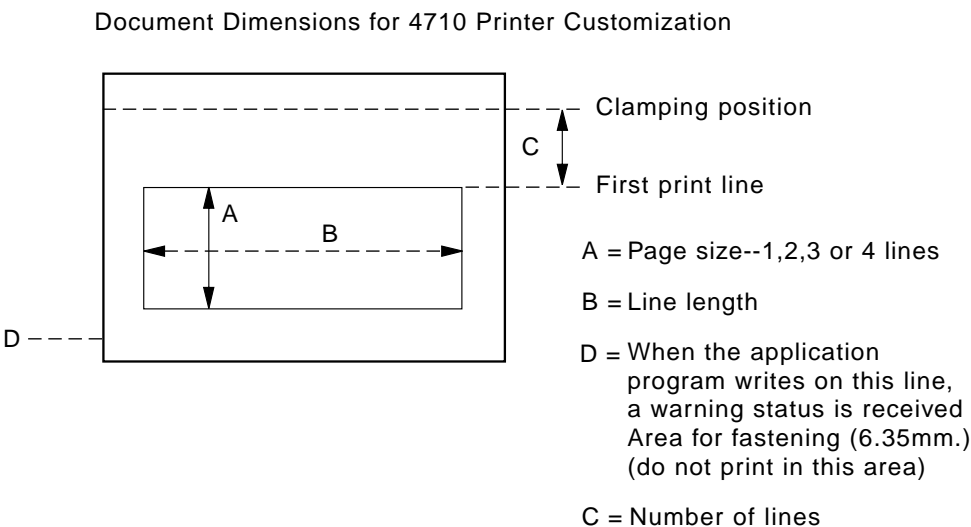

Figure 9. Document dimensions for IBM 4710 printer customization
VRTOFFSL	<p>Is an optional keyword to define the number of lines between the first printable line and the line occupied by the tractor clamping mechanism. (See dimension C in Figure 9 on page 309.)</p> <p>The value specified for VRTOFFSL plus the one for PAGESIZE must not be greater than 4. If WRNLINE is greater than 0, VRTOFFSL must not be greater than WRNLINE. The default is 0.</p>
**WRNLINE** Is an optional keyword to define the number of the line at which a attention item is reported to the application (refer to G in Figure 9 on page 309). Allowed values are from 0 to the specified PAGESIZE. The default is **0**. (Dimension D)